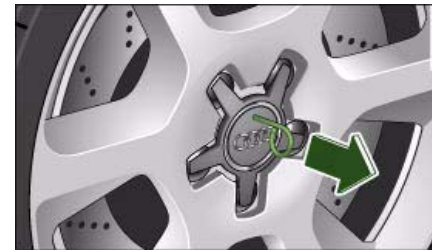

Fig. 271 Changing a wheel: Removing a hub cap
- Pull off the **hub cap** ⇒ fig. 271. ■
- Pull off the **hub cap** ⇒ *page 289*, fig. 271.
- Insert the adapter ② completely into the wheel bolt ①.
- Fit the box spanner as far as it will go over the adapter ②.